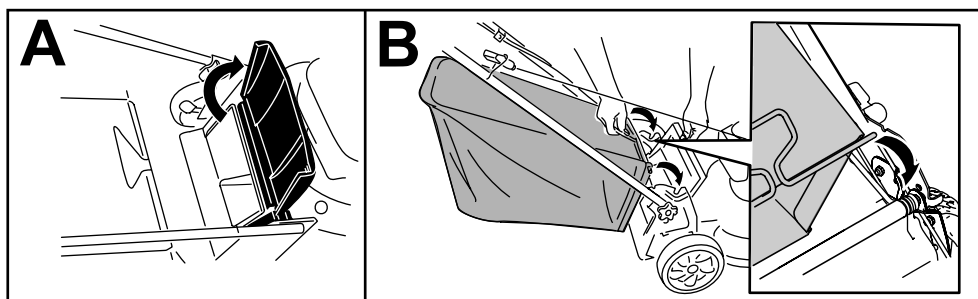

Figure 12
1. Raise and hold up the rear deflector (A of Figure 12).
2. Install the grass bag, ensuring that the pins on the bag rest in the notches on the handle (B of Figure 12).